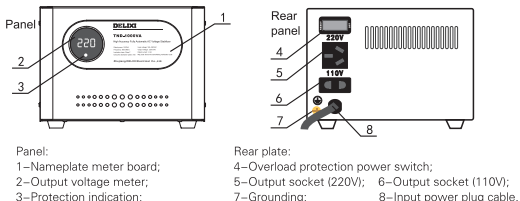

Figure 13 TND-0.5, 1, 1.5k VA
The outline wiring diagrams for TND single-phase and SJW three-phase products are shown in Figures 13, 14, 15, 16, 17 and 18;
3.4.1. The outline and wiring of the TND-0.5, 1 and 1.5kVA high-precision fully automatic AC voltage stabilizers are shown in Figure 13.
3.4.2. The outline and wiring of the TND-2, 3 and 5kVA high-precision fully automatic AC voltage stabilizers are shown in Figure 13.
4.10 When wiring the product, first open the terminal cover plate and strictly follow the terminal markings, make sure the wiring is securely and reliably crimped, refer to Figures 13, 14, 15, 16, 17 and 18 for specific wiring locations.